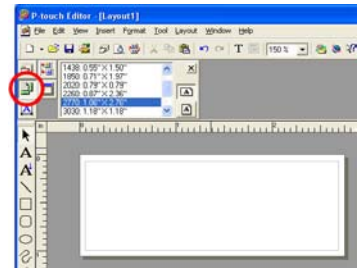

figure 1
- 2 From the "Stamp Size" list, select the size of stamp to be made (see figure 1).